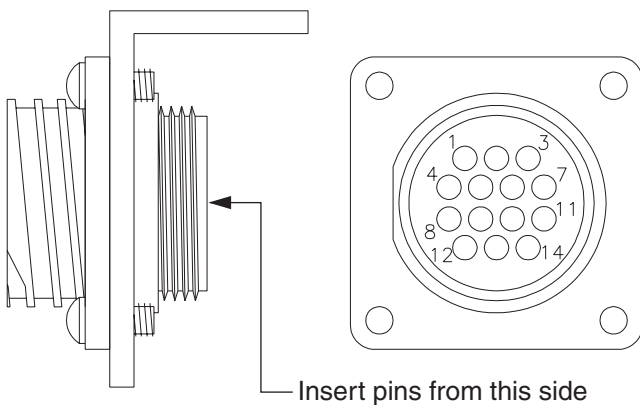

Figure 30
22. Insert each of the 10 socket-type terminals into the connector housing. (See Figure 30.)